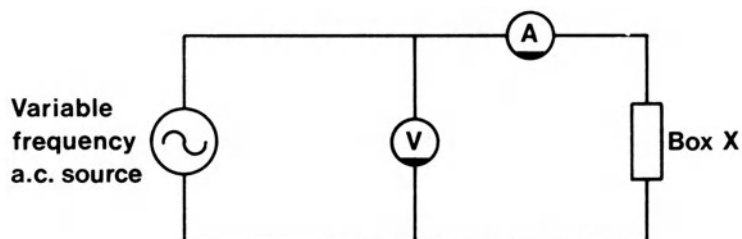

FIG. 3.48
37. The readings in the table were taken when variable frequency alternating current was passed through the circuit in the Box X in the circuit shown in Fig. 3.48.